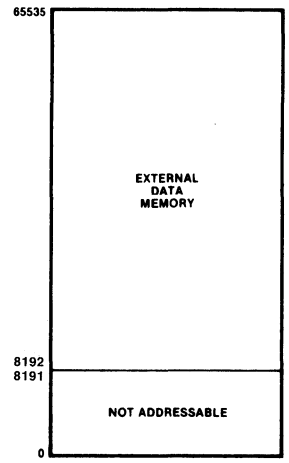

Figure 5. Data Memory Map
**Data Memory.** The Z86E21 can address 56K bytes of external data memory beginning at locations 8192 (Figure 5). External data memory may be included with or separated from the external program memory space.  $\overline{DM}$ , an optional I/O function that can be programmed to appear on pin  $P3_4$ , is used to distinguish between data and program memory space.